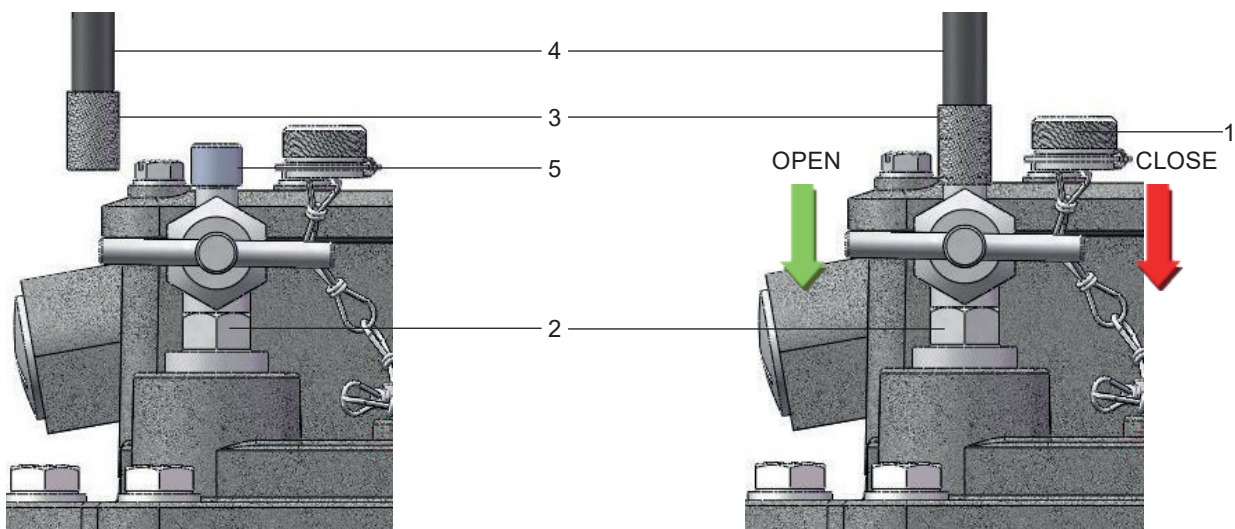

Fig. 9 – Functional test by means of test pump
- Remove the small cap nut (Fig. 9/ no. 1) from the bleeder valve (Fig. 9/ no. 2).
- Fit the adapter (Fig. 9/ no. 3) of the hose providing the connection to the test pump (Fig. 9/ no. 4) on the valve nozzle (Fig. 9/ no. 5).